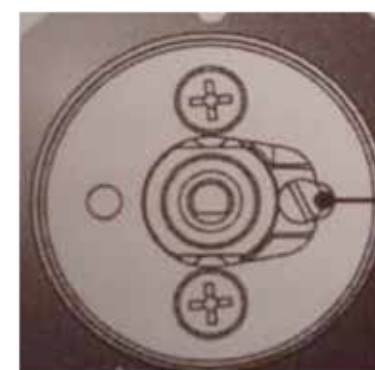

Figure 1
- Using a screwdriver, adjust the internal screw until the correct low flame is obtained, the screw is located just to the right of the shaft see figure 1